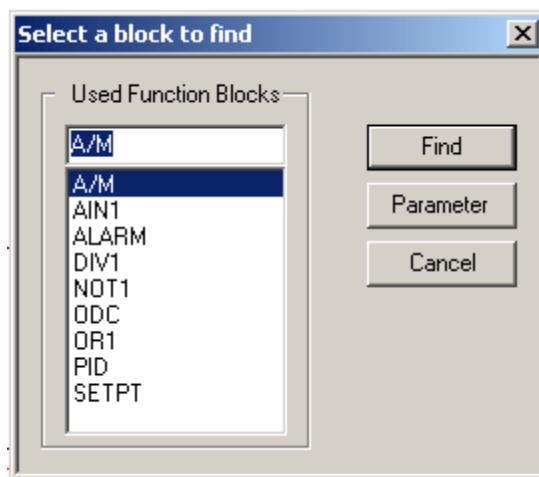

Figure 8-11 Select a block to find dialog
1. Select **Edit >Find Block**. The Select a block to find dialog contains a list of the function blocks used in the presently open function block loop. See figure 8-11.